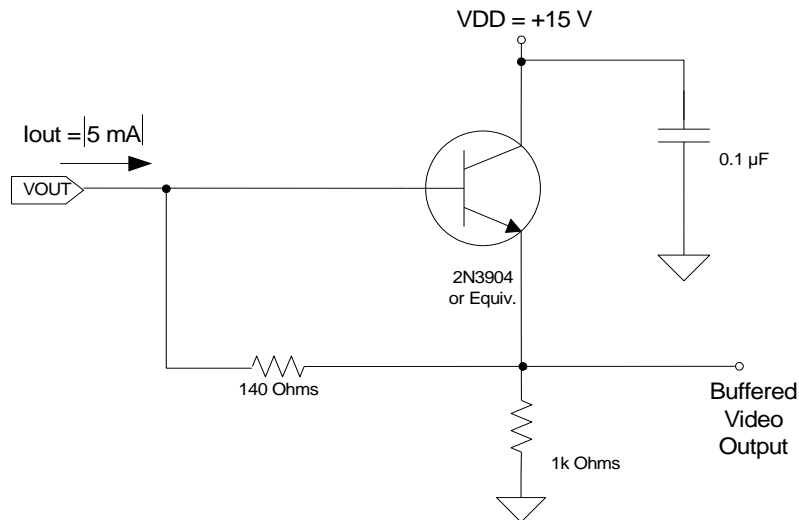

Figure 3: Recommended Output Structure Load Diagram
electronics, the reset gate (RG) is clocked to remove the signal and FD is reset to the potential applied by reset drain (RD). Increased signal at the floating diffusion reduces the voltage seen at the output pin. To activate the output structure, an off-chip current source must be added to the VOUT pin of the device. See Figure 3.